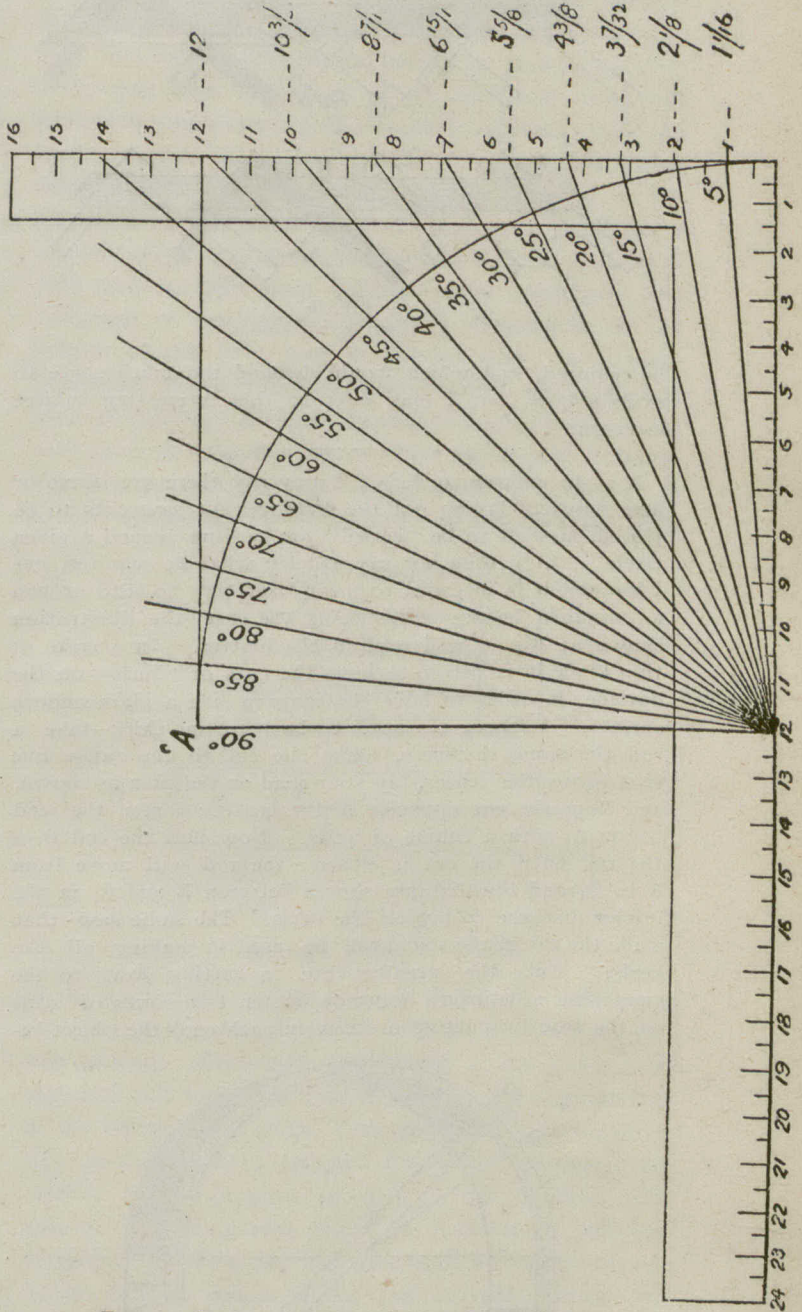
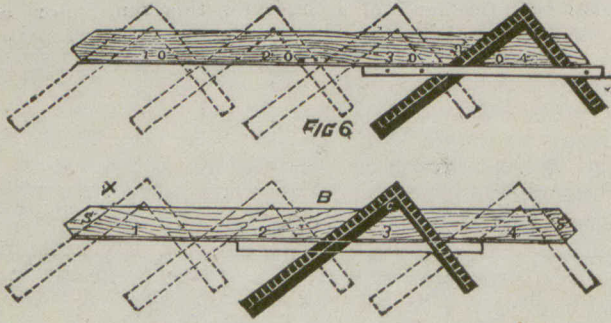

FIG. 2.—LAYING OFF DEGREES BY STEEL SQUARE
FIG. 4.
W. T. : Replying to P. McF., who, in your last issue asks if there is a correct method of laying off degrees with the steel square? I may say there are several methods one of which I enclose as shown at Fig. 2, and which I think is among the best. It will be seen by the diagram the relationship of certain divisions of the circle to different figures on the square is indicated. The divisions shew the degrees from 5 to 90 with the exact figures on the tongue necessary to produce the same. This diagram is also useful in roof work, as for example: if a pitch of 25 degrees is required, use 12 inches on the blade and 5 5/8 on the tongue. By reversing the conditions, 65 degrees will be established. Indeed, this scheme may be used for the solution of many problems in the construction of angles. With regard to laying out "braces" for that is what P. Mc F. means I suppose, I may quote from the "Steel Square and its Uses." If we examine the illustration, Fig. 3, we find a brace having a run on the girt of three feet, and a run on a post of four feet, which of course, is an unequal run. The positions of the square for laying the run off, are shown by the dotted lines. To get the length of brace and level of cut for this "run," we take nine inches on the tongue, and twelve inches on the blade, and the distance between the two figures—9 and 12—will give the length of "one foot run" as measured on the brace, and the line marked on the edge of the tongue, will give the top cut of the brace, while the line along the edge of the blade will give the cut or bevel of the brace fitting against the post. The operation is to be repeated four times as shown at Fig. 4. If we want a brace with a two foot run and a four